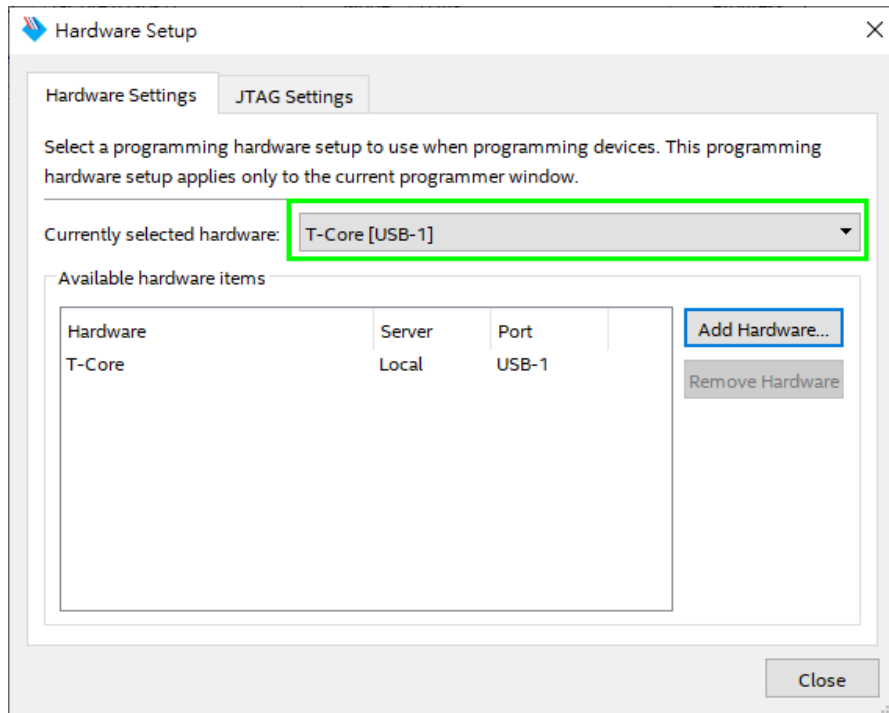

Figure 2-4 Hardware Setting
3. If it is not already turned on, turn on the USB-Blaster [USB-0] option under currently selected hardware and click “Close” to close the window. See Figure 2-4.